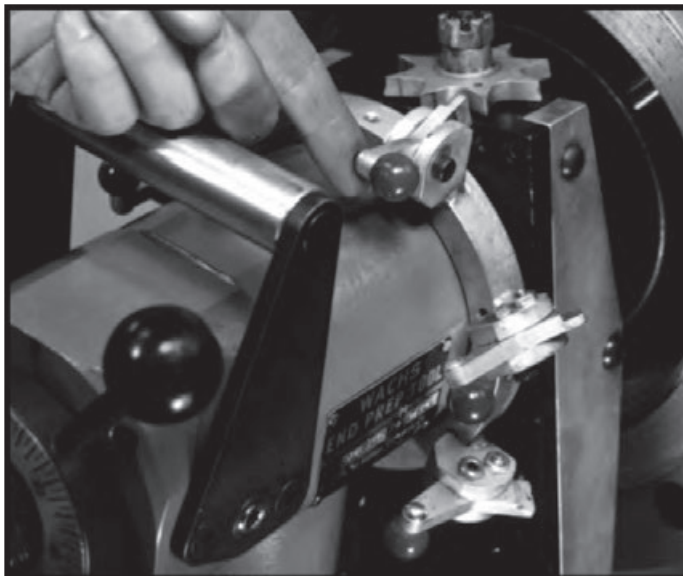

Figure 3-28.
21. Engage the desired number of trips on the trip collar* assembly to achieve the surface finish required. (Figure 3-28) (Refer to flange surface trip chart.)